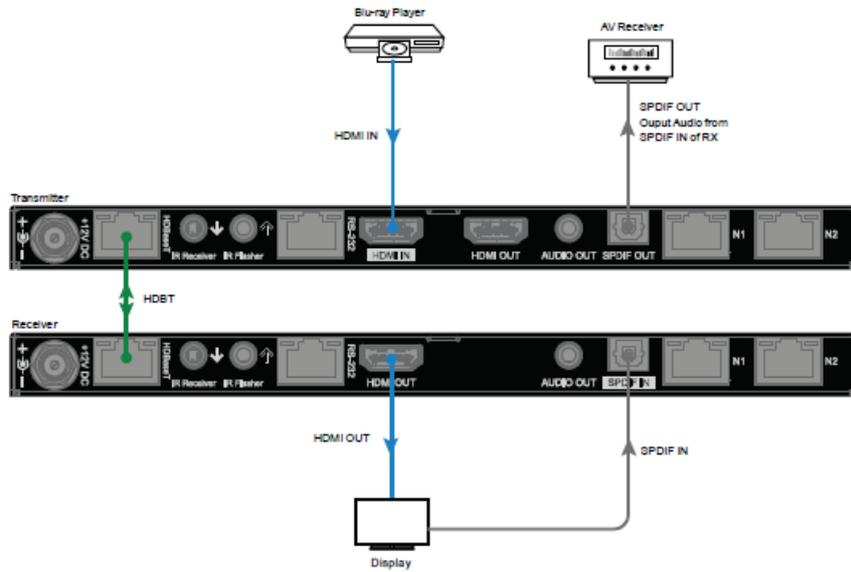

Figure 2: To return SPDIF inserted audio
- Set Pin1 of a transmitter (TX) to “up”, audio return mode. And,
- Set Pin1 of the receiver (RX) to “down”, SPDIF IN mode.
- After the above settings, audio inserted via RX SPDIF IN port can be returned back to TX and output from TX SPDIF OUT. See Figure 2.